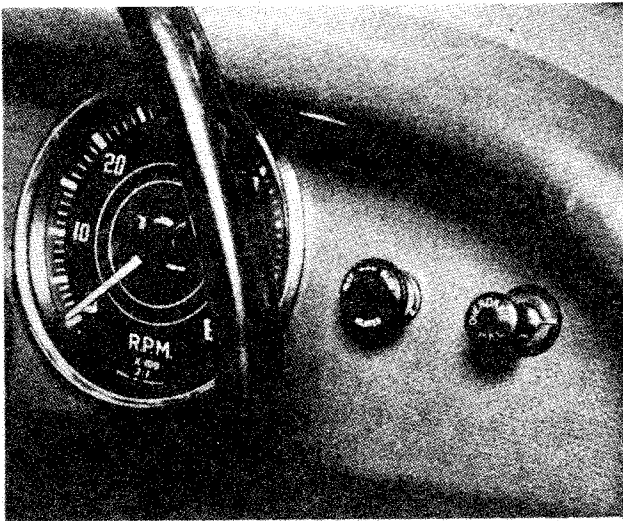

Fig. 11 Showing location of Heater Control Switch.
9. At this point it is advisable to install the electrical control switch (Fig. 11), a hole for which is already provided in the dashboard. For the sake of appearance the hole in the dashboard is covered by trim material until it is required. This covering of trim can easily be cut away with a small sharp blade, after location of the hole with the tip of a finger, its position is approximately 4" from the steering end of the dashboard at a point  $2\frac{5}{8}$ " from the lower edge of the dash panel.